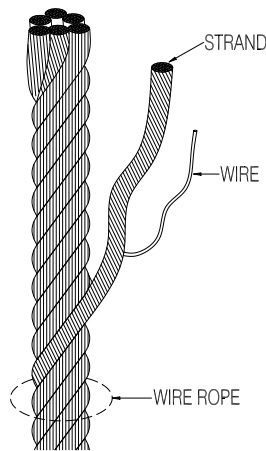

Figure 5-1.
- (b) Six randomly distributed broken wires in one rope lay. A rope lay is the length of rope along which one strand makes a complete revolution around the rope. See Figure 5-1. Keeping the rope clean and wound evenly on the winch drum will increase its life and efficiency.